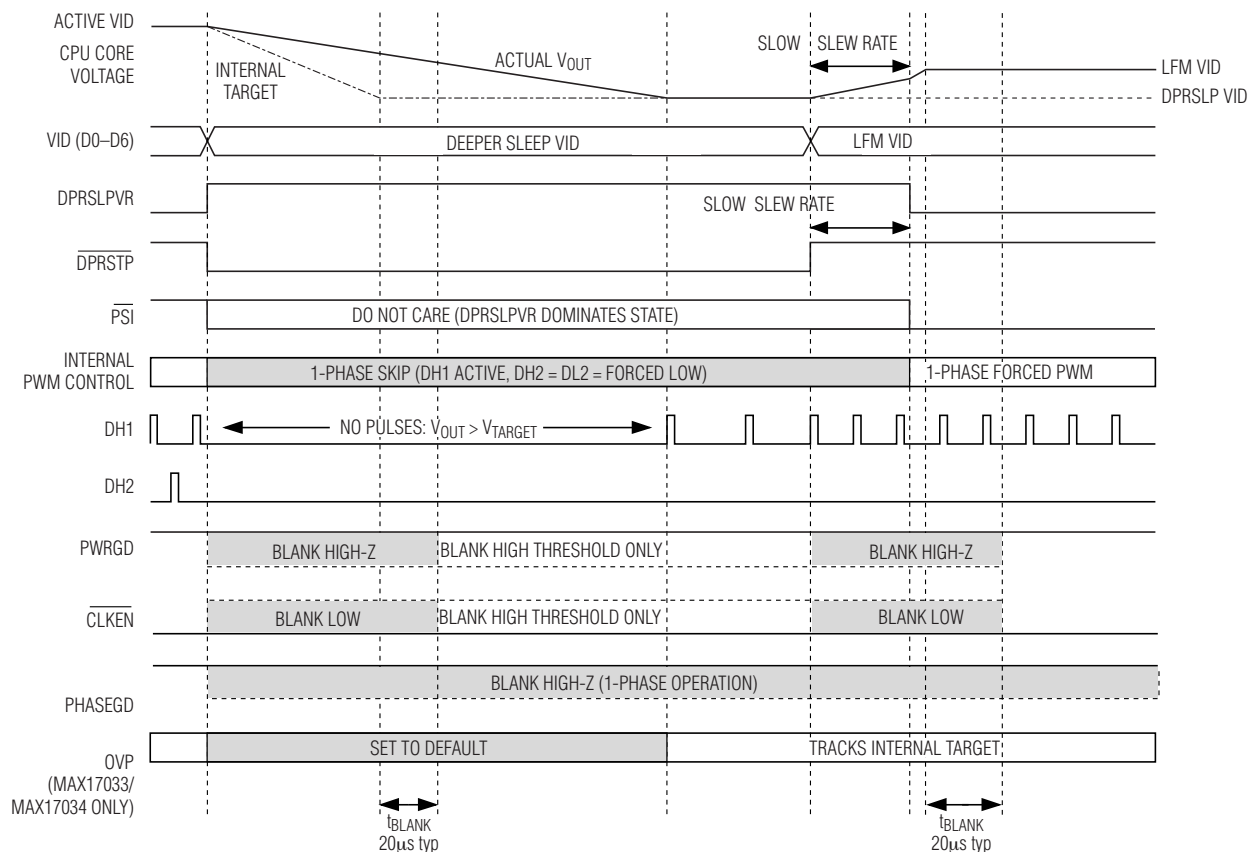

Figure 7. Slow C4 Transition (MAX17033 IMVP6+)
- IMVP6+ Slow C4 Deeper Sleep Exit:** When exiting deeper sleep (DPRSLPVR high, DPRSTP pulled high) while the output voltage is regulating to the deeper sleep voltage, the MAX17033 remains in 1-phase skip mode and ramps the output voltage to the LFM DAC code provided by the processor at 1/4 the slew rate set by RTIME. The controller blanks PWRGD, PHASEGD, and CLKEN until 20 μ s after the transition is completed. See Figure 7.